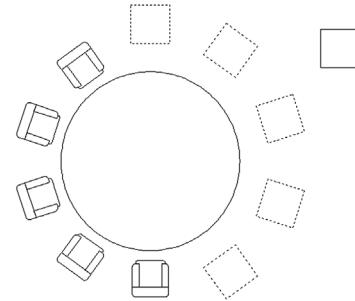

FIGURE 8.7 Replace Item in progress.
- *Replace Item*: If editing the source is too time consuming, then just replace it with another design via this option. AutoCAD asks you to select the replacement object and a base point. Use the Key Point option to pick a point on the replacement object. Finally, select an item (or several items) in the array to replace. Fig. 8.7 shows Replace Item in action as squares replace the chair symbol.